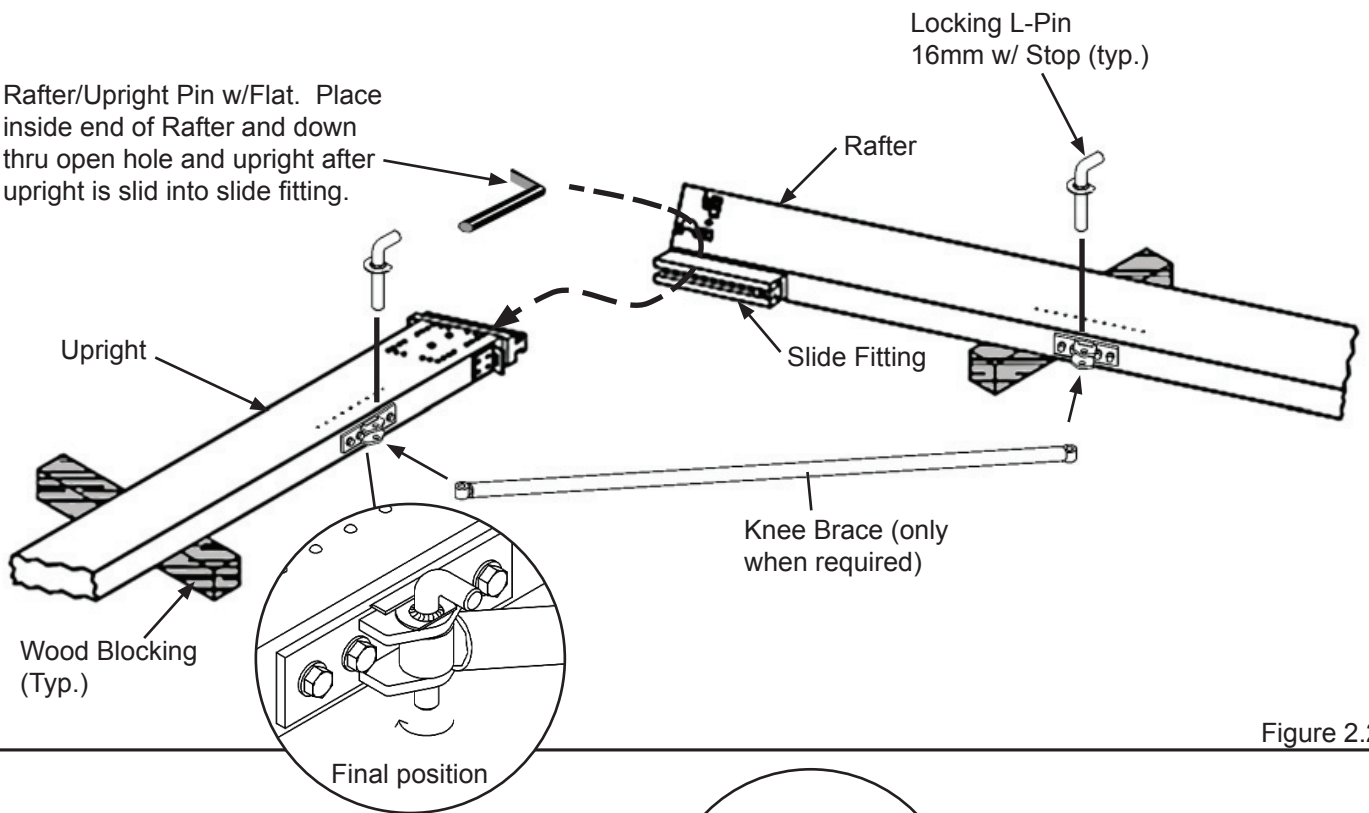

Figure 2.2a
2.2.2 Connect Rafter to the Upright Assembly by sliding the Rafter onto the slide connector on top of the upright. Secure the connection by inserting the Flat L-pin into the hole located inside the end of the rafter, see **Figure 2.2a**.
2.2.7 When Ridge and Knee Braces are required as shown in the configuration drawing, install as shown in Figures 2.2a & 2.2b.